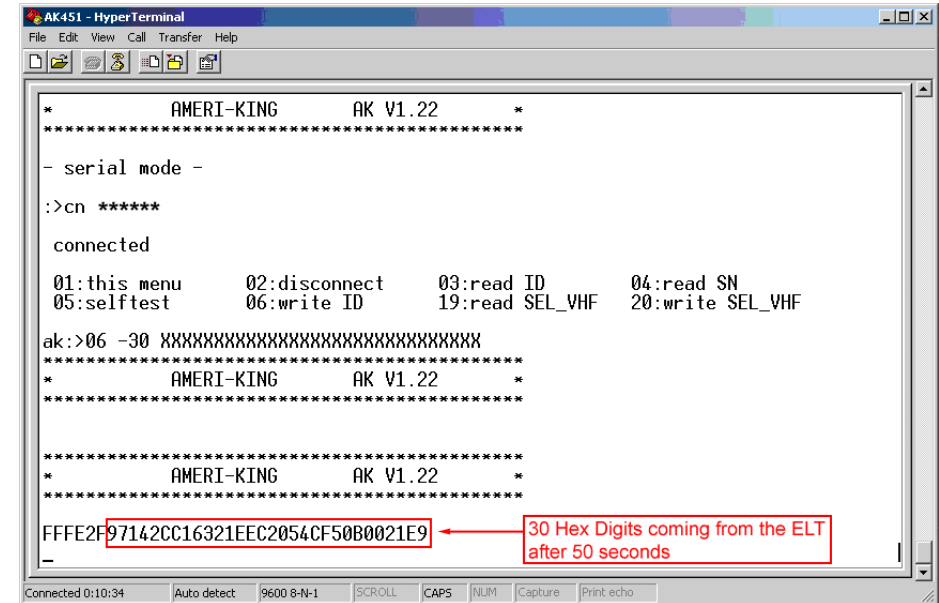

Figure 10
4. **DO NOT** turn the ELT off. Wait for 50 seconds and you will receive 30 Hex digits (Ignore the first 6 digits) coming from the ELT that contains the coordinate of the Ameri-King GPS Location (See Figure 10). Use the 406MHz Decode Program to verify the coordinate input.